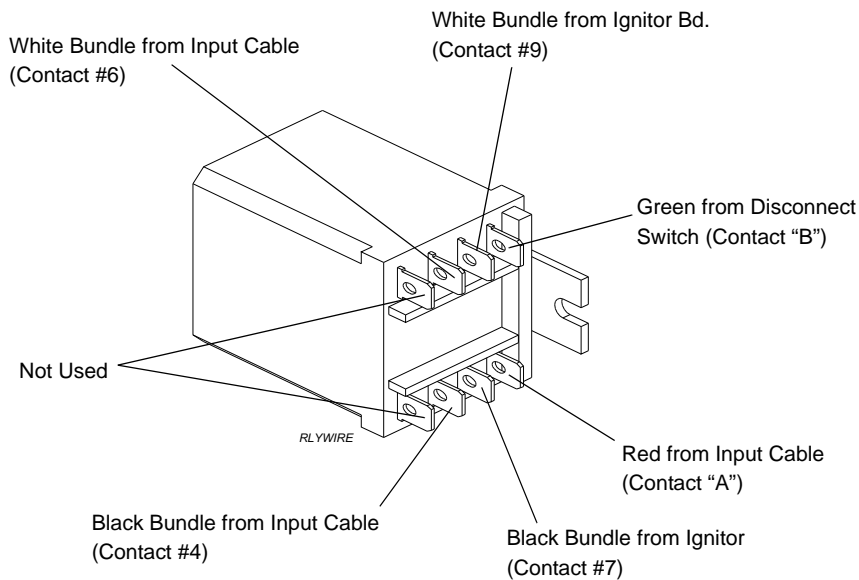

Figure 2-34: Disconnecting Relay Wires
- Step 4. At relay, disconnect all wires. **Figure 2-34.**